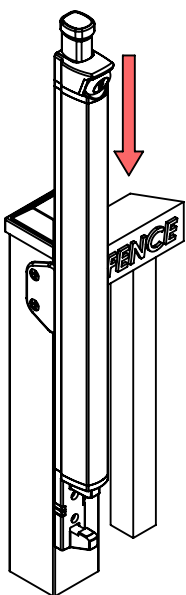

FIG. 3
1. Slide the Latch Body down over the Upper Bracket (Fig. 3). Use a measuring device to locate the Top of the Latch at the PROPER HEIGHT (Fig. 1) "REFER TO ALL LOCAL BUILDING CODES"